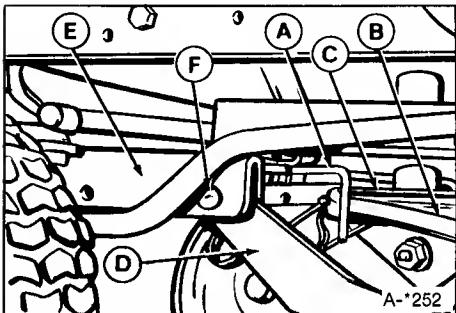
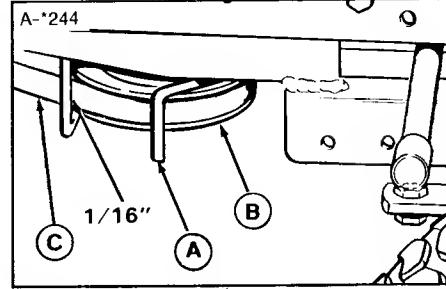
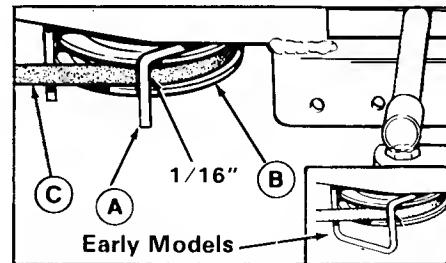

Figure 3. L.H. Belt Stop
Figure 5. Right-Hand Belt Stop - 42" Mowers
Figure 5A. Right-Hand Belt Stop - 36" Mowers
10. Slip the mower drive belt onto the engine PTO pulley loosening belt stops as necessary. The left-hand belt stop is shown in figure 3. The right-hand belt stop for 42" mowers is shown in figure 5. The right-hand belt stop for 36" mowers is shown in figure 5A. Position belt stops $1/16"$ from belt.